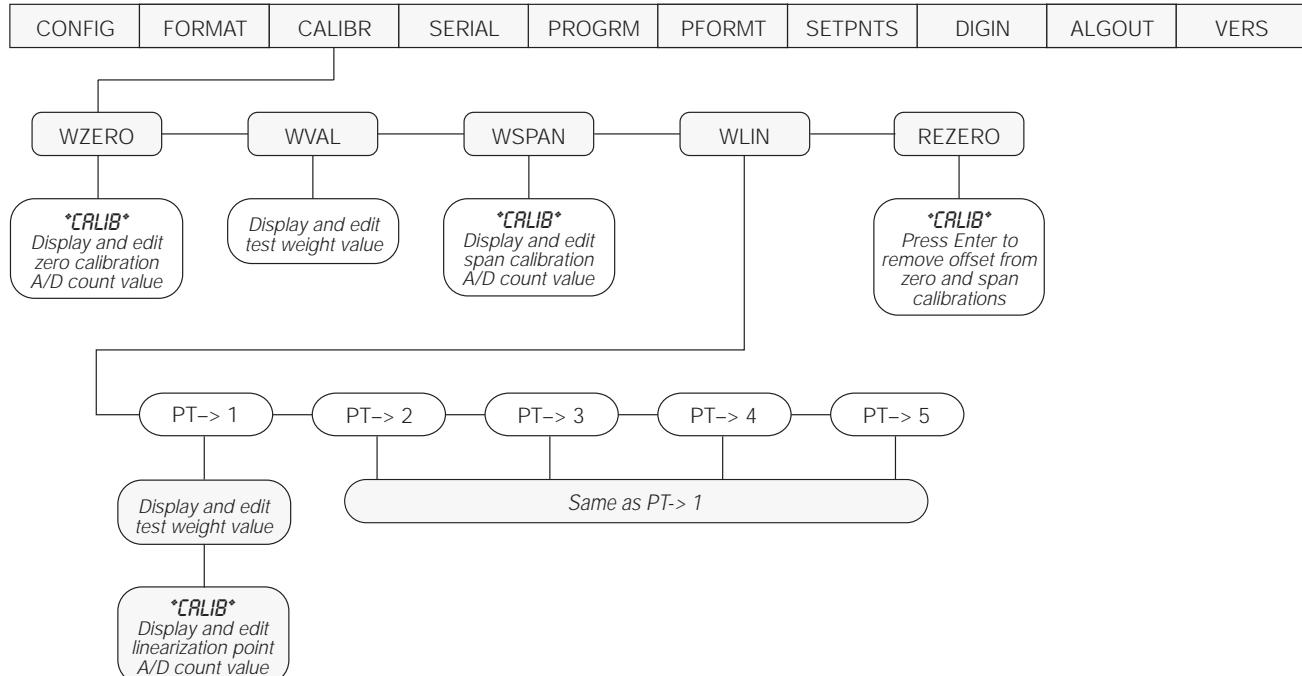

Figure 4-1. Calibration (CALIBR) Menu
2. Press ▷ until the display reads *CALIBR* (see Figure 4-1). Press ▽ to go to zero calibration (*WZERO*).